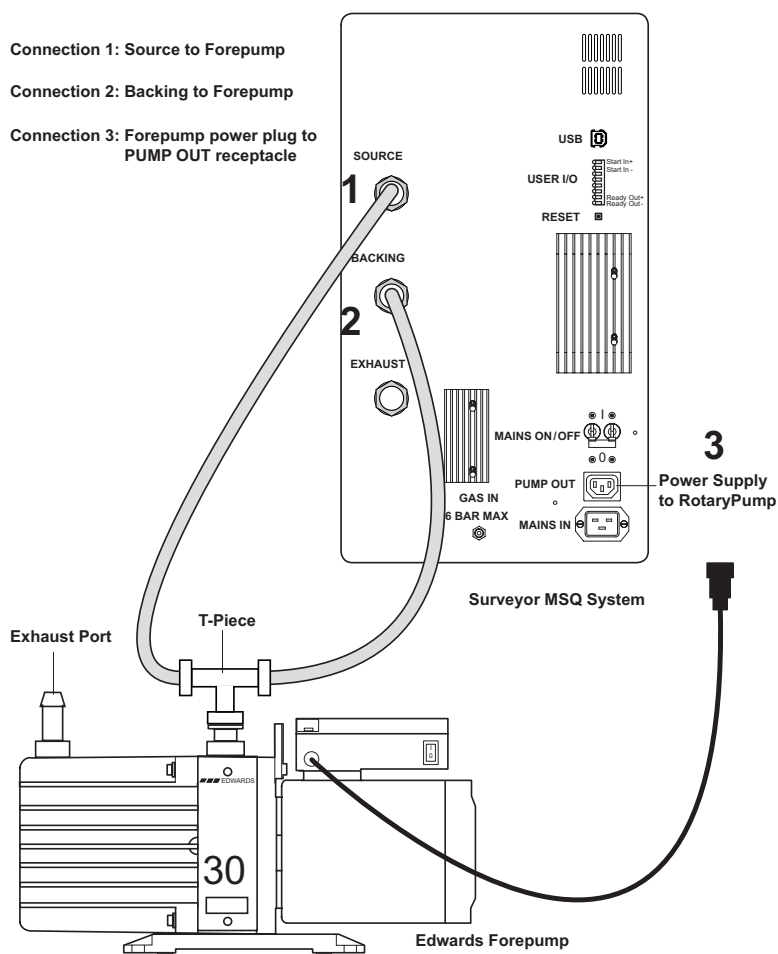

Figure 1-4. Rotary vacuum pump connections (Edwards)
2. The backing lines labelled SOURCE and BACKING should then be connected to the “T” piece on the rotary pump, using KF25 centering rings and clamps (see **Connections 1 and 2** in **Figure 1-4**).
4. Connect the power cord of the Edwards rotary vane pump to the PUMP OUT receptacle in the lower-right portion of the rear panel of the MSQ (see **Connection 3** in **Figure 1-4**).